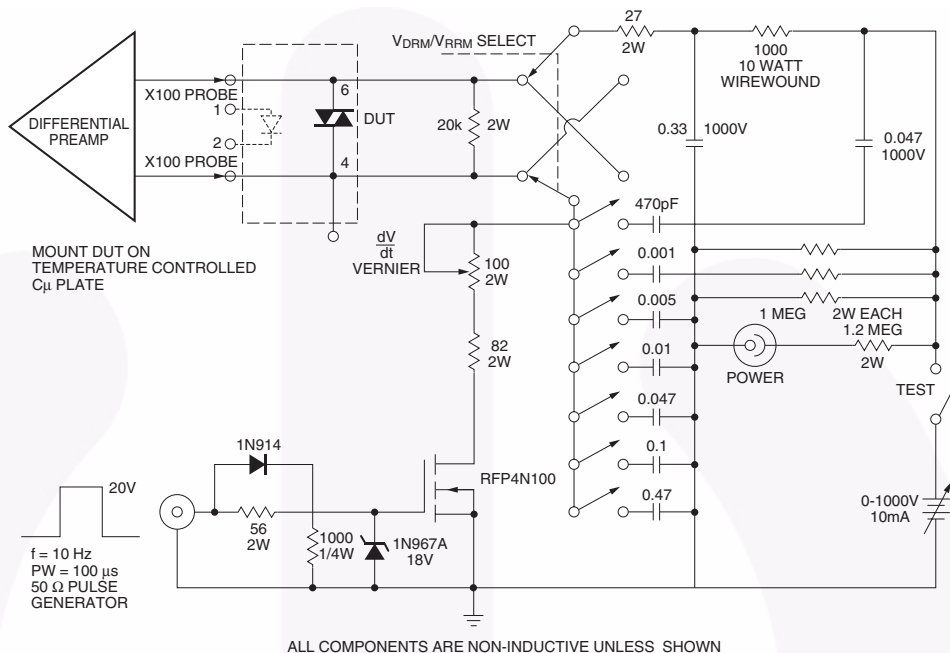

Figure 9. Circuit for Static $\frac{dv}{dt}$ Measurement of Power Thyristors
- This is static dv/dt . See Figure 9 for test circuit. Commutating dv/dt is a function of the load-driving thyristor(s) only.